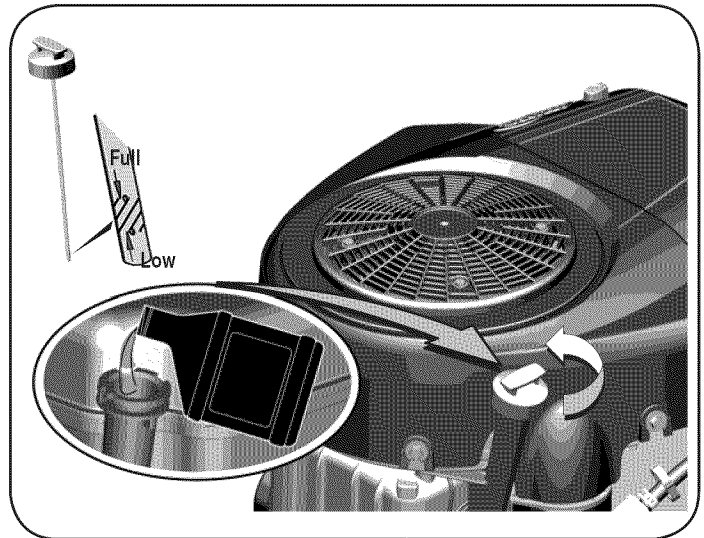

Figure 26
5. Remove the dipstick and check the oil level. It should be at the Full mark on the dipstick. See Figure 26.